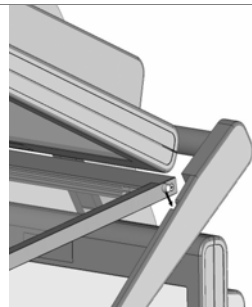

Figure 6. Glass mirror pins on each side fit into the mirror support arms.
4. Carefully remove the glass mirror from the shipping case. With the StereoMirror™ logo oriented to the lower right, insert the pins located on either side of the mirror frame into the corresponding slots on the mirror support arms. The pins should rest in the fully forward position of the mounting arm slots. The monitor is now ready to attach to the computer. (See Figure 6.)